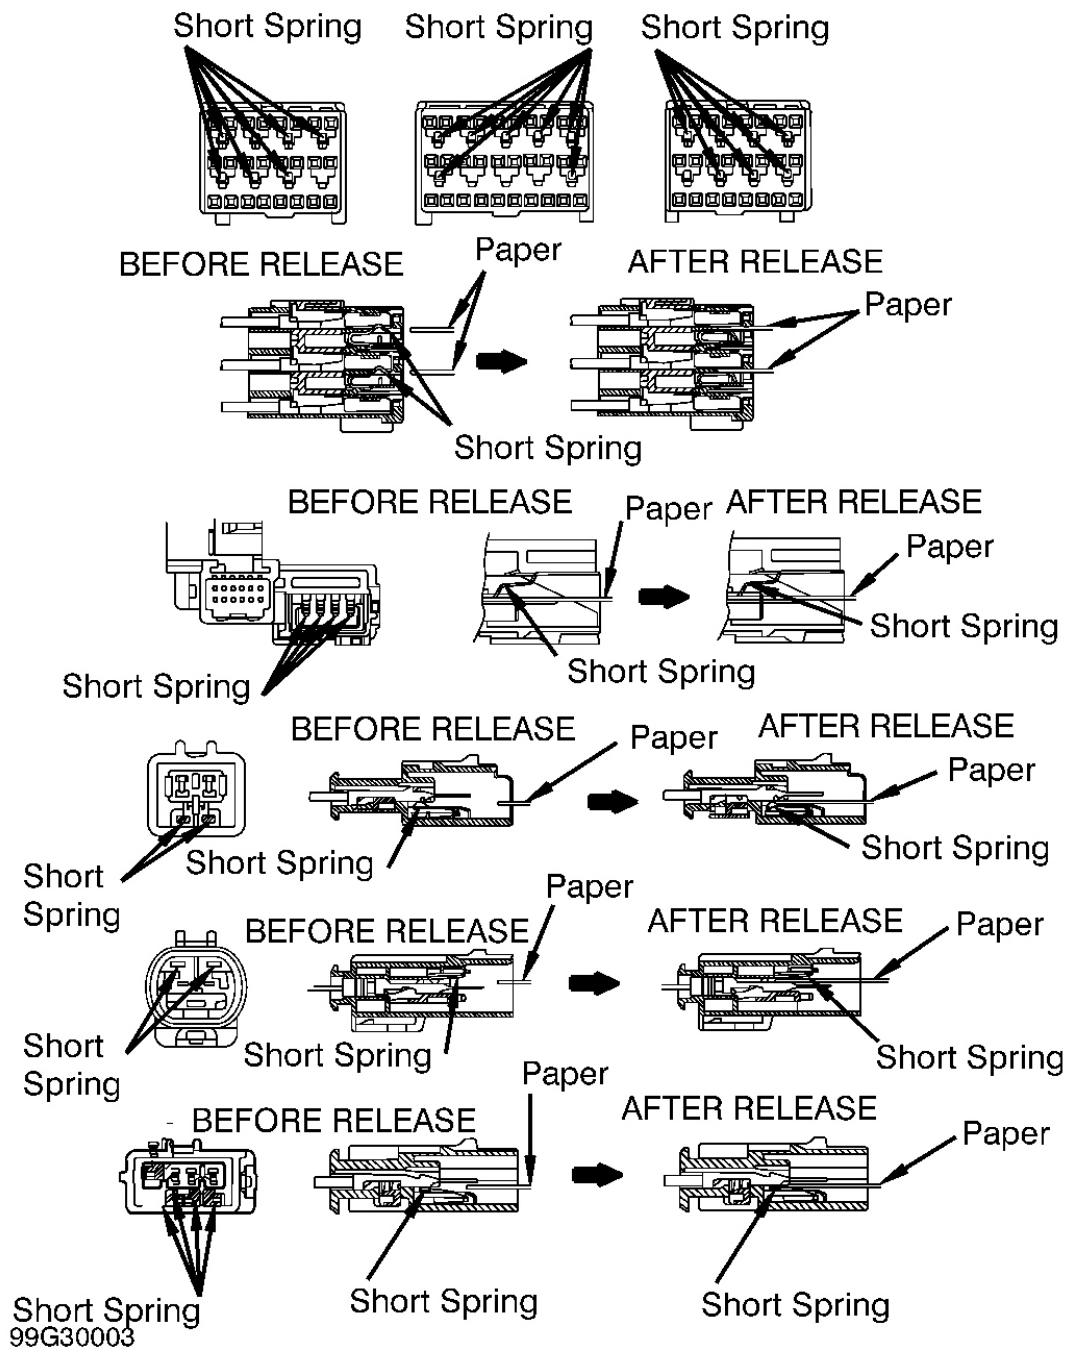

Fig. 19: Releasing Short Spring
4. Some testing procedures require short spring to be in released position with connector disconnected (this is opposite of its normal position). To hold short spring in released position, obtain a piece of paper that is same thickness as male terminal blade that slides under short spring when connector is connected. See **Fig. 19**.